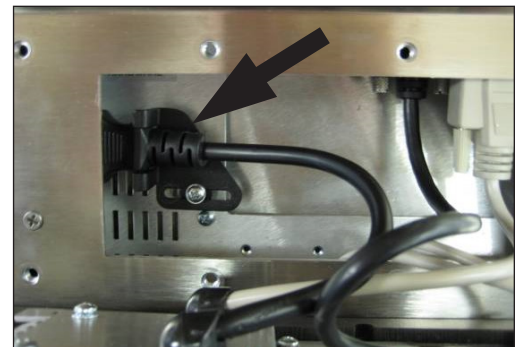

FIGURE 1
5.  Install the video cable from the KVM Remote Module into the monitor and secure the screw locks. Loosen the retaining clip for the power cable in the monitor's cable well and connect the power cable from the KVM Remote Module to the monitor. Retighten the retaining clip as shown in Figure 1.